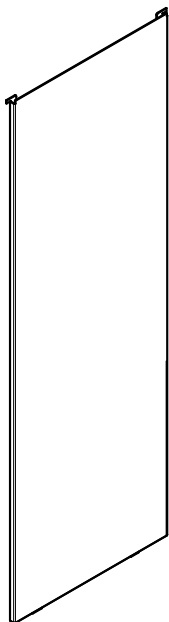
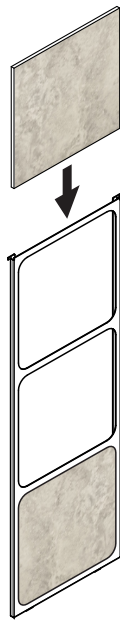

Figure 16.1
Figure 16.2
Your appliance ships with two different side options, one is a solid side panel (Figure 16.1) and tile side panel (Figure 16.2). There are two of each and no left or right side, these can be changed at anytime.
2. Stack non-combustible material tiles in tile frame as shown in Figure 16.2.